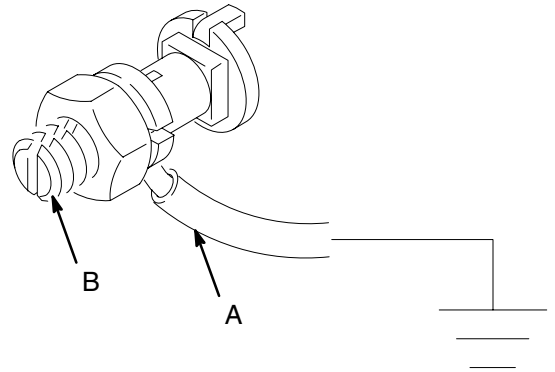

Fig. 1
To ground the agitator, connect one end of the ground wire (A) to the ground connector (B) on the rim of the drum Cover. See Fig. 1. Connect the other end of the ground wire to a true earth ground.